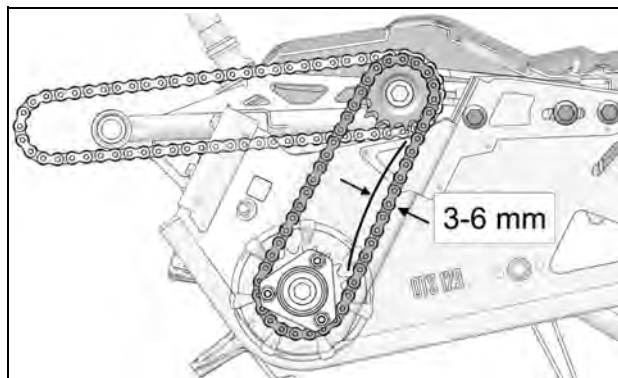

Figure 10
- Apply pressure at center of the two drive sprockets. The chain should have 3-6 mm (1/8-1/4 in.) of play. Re-adjust until the right amount of play is obtained. See Figure 10.